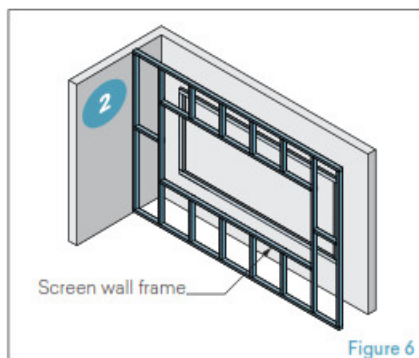

Figure 6
2. Erect a frame for the screen wall and fix this to the floor, ceiling, and adjoining walls. (Figure 6)